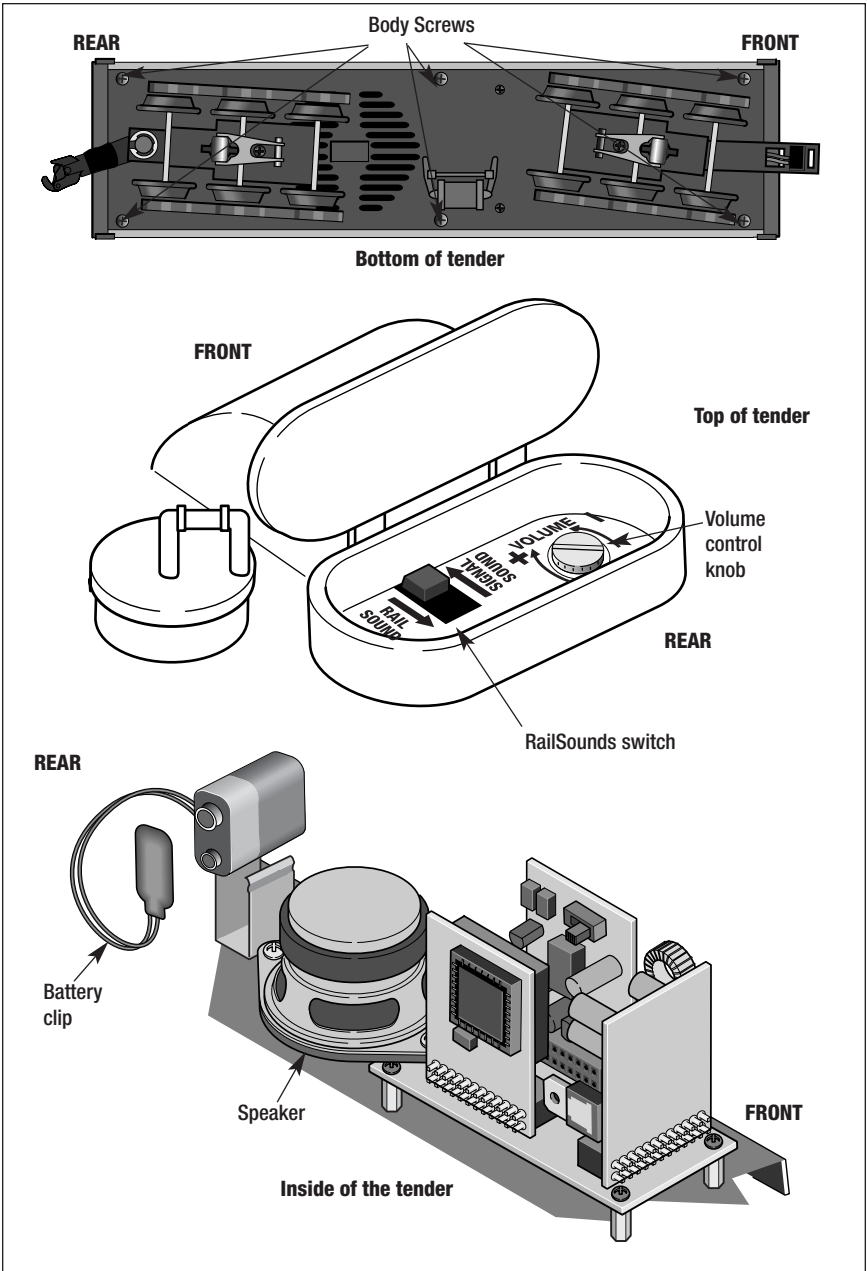

Figure 4. Servicing the tender
Begin by installing a nine-volt *alkaline* battery in the tender as illustrated in Figure 4 on page 9. This ensures interruption-free operation of the RailSounds sound system. The battery clip is located inside the tender. To access the battery clip, you must first remove the six body screws from the bottom of the tender and then lift off the top of the tender. Refer to the Figure 4 on page 9 for the location of the body screws.
To silence the steam chuffing sound (whistle/bell are unaffected), slide the RailSounds switch, located on the top of the tender beneath the hatch (see Figure 4 on page 9 for the location), to the SIGNALSOUNDS position *before powering up the locomotive*. The whistle is activated by using the lever or button on your transformer or CAB-1 Remote Controller. The volume control knob is also located on the top of the tender beneath the hatch (see Figure 4 on page 9).
- Use the volume control knob, located under the hatch on top of the tender, to adjust sound output. Refer to Figure 4 on page 9. Use a flat-blade screwdriver to adjust the volume level.